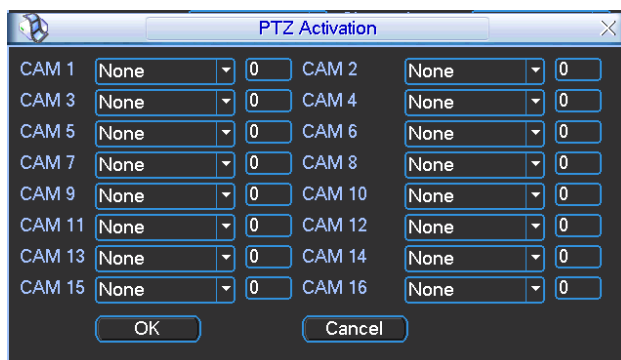

Figure 4-19
- PTZ activation: Here you can set PTZ movement when alarm occurs. Such as go to preset, tour & pattern when there is an alarm. Click “select” button, you can see an interface is shown as in Figure 4-19.